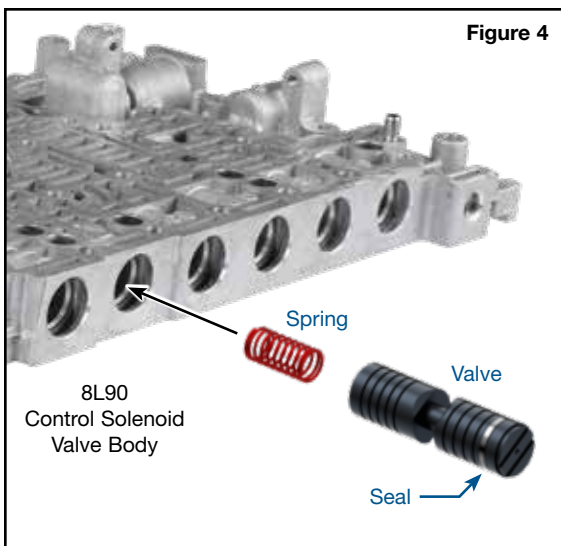

Figure 4
- Insert spring into the pocket of the valve (**Figure 4**).